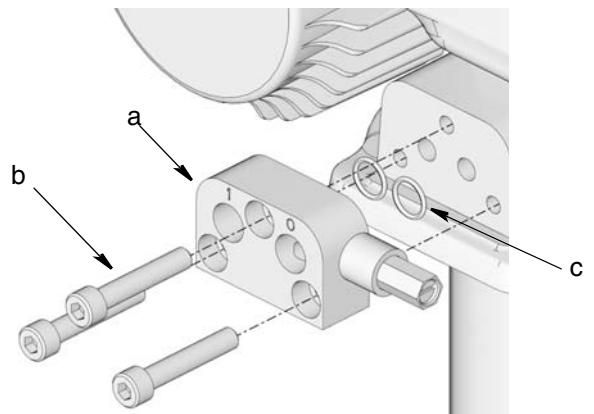

FIG. 3
5. Loosen, remove and discard the 3 socket head cap screws (b) from the adapter block (a) (FIG. 3).
6. Remove adapter block (a) and o-rings (c) (FIG. 3). Discard these parts according to state and local codes for proper disposal. These parts will not be used for reassembly.